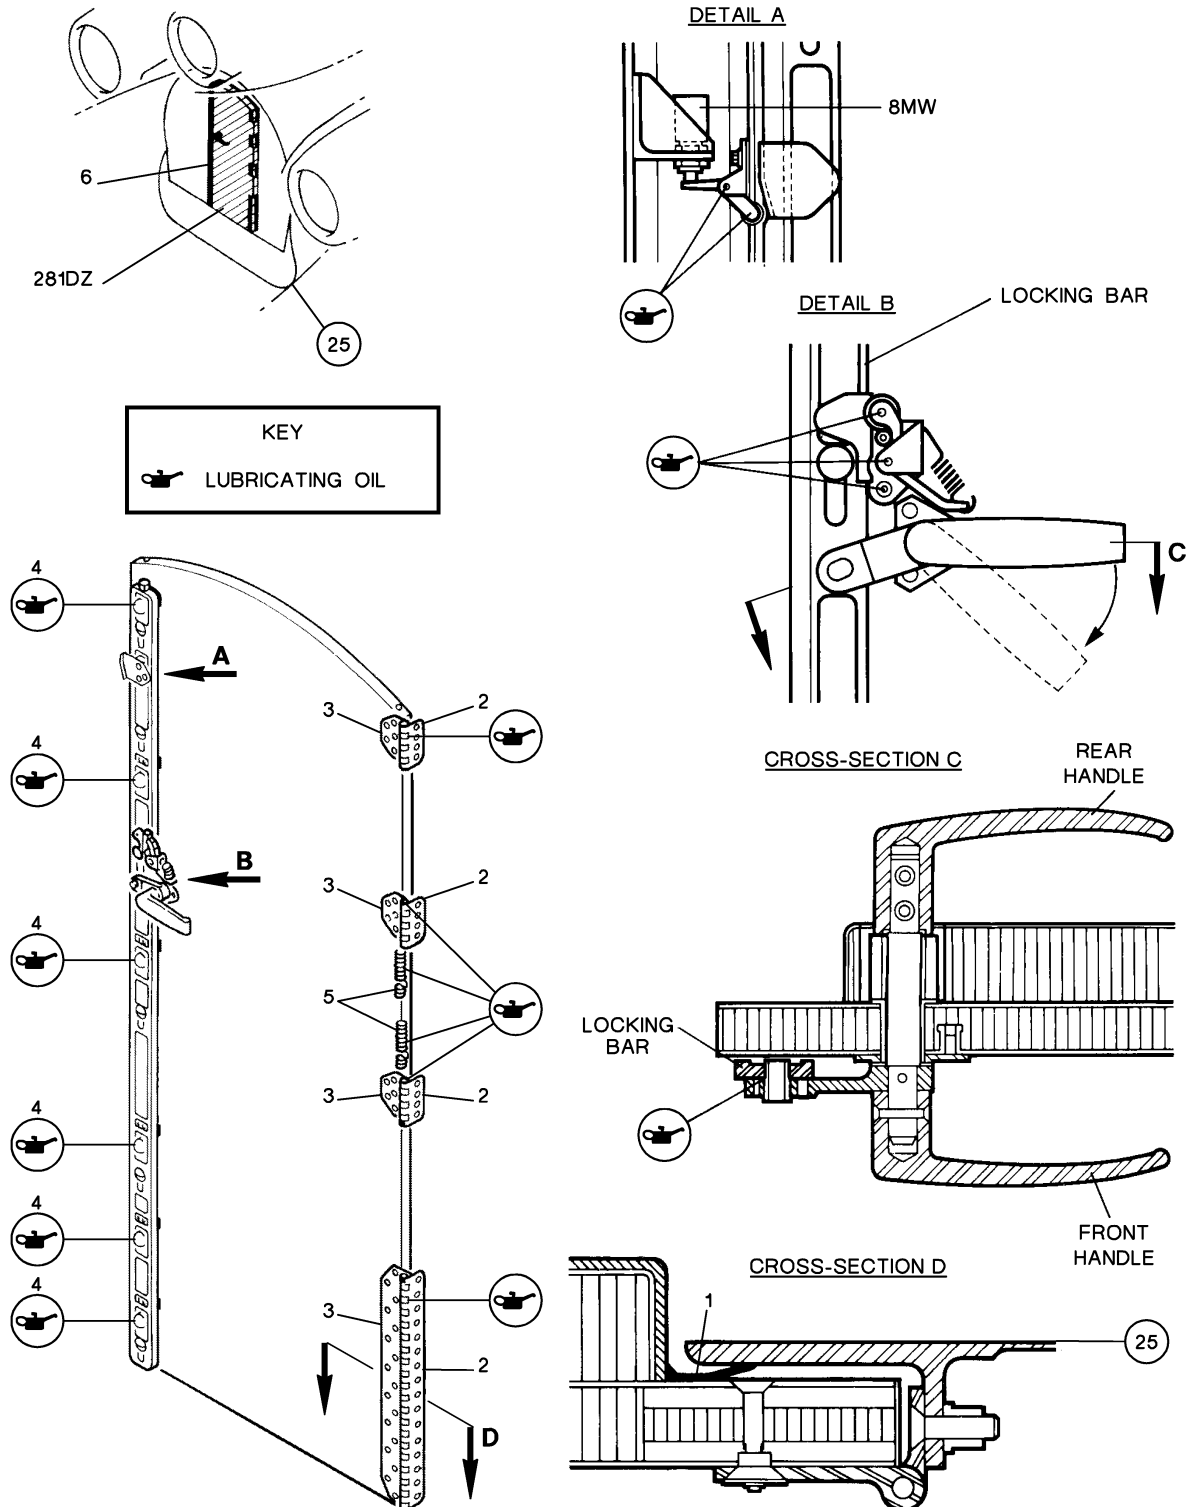

Figure 1: Servicing of Cabin/Baggage Compartment Communication Door
Refer to **fig. 1**
C. On the frame, check the condition of tenons (2) and their bore holes.
D. On the door, check the housings of tenons (3) and the condition of catches (4).
- tenons (2) on door frame,
- tenons (3) and catches (4) on the door, if required,
- the two return springs (5),
- the rod of microswitch (**8MW**), the rocker roller and hinge pin (**fig. 1**, detail A),
- the opening handle mechanisms (**fig. 1**, detail B).